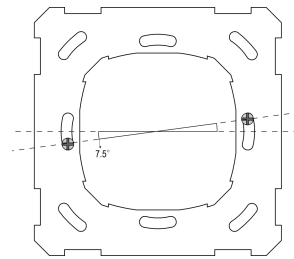

Fig.6
**Note :** There is a maximum deviation angle of 7.5 degrees for screwing the metal fastener (See Fig.6). The screwing position of the mounting box can be mounted with up to the maximum deviation of this angle.